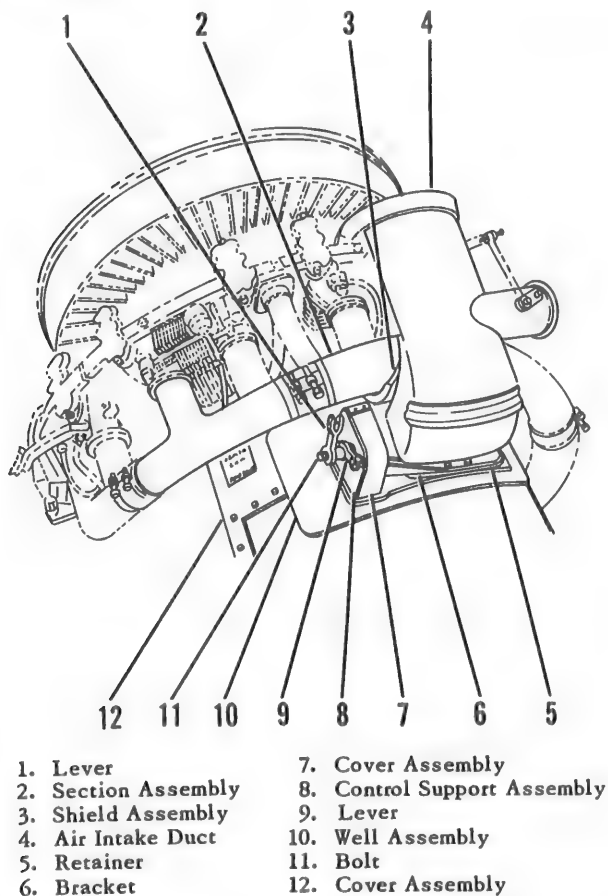
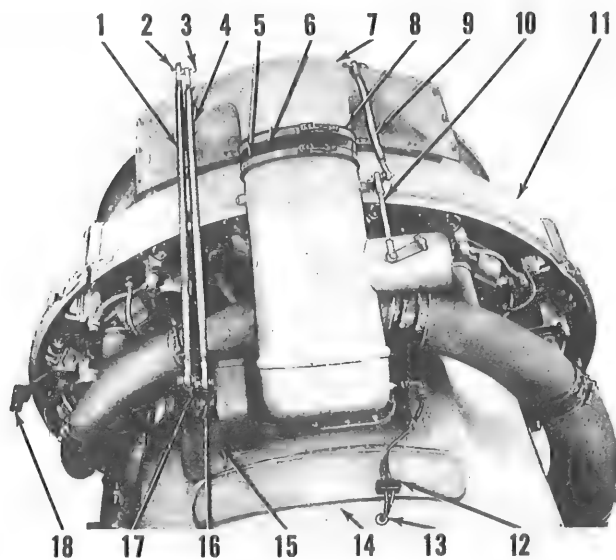

Figure 3-44. Air Intake Duct and Well Assembly
Figure 3-45. Engine Controls (Rods)
3-141. INSTALLATION. (See figure 3-44.)
b. Position well assembly (10, figure 3-44) on top of carburetor and cover assembly (12).
e. Position one-half the length of rubber boot (6, figure 3-45) over end of air intake duct (4, figure 3-44). Secure rubber boot (6, figure 3-45) with
i. Align holes of both cushion retainer halves (2, figure 3-9) and cushions (1) with holes of well assembly (10, figure 3-44).
j. Position air intake duct (4, figure 3-44) on well assembly (10).